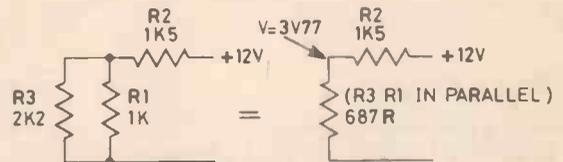

Fig. 3. How the circuit of Fig. 1 looks when the 10 V terminals are shorted.
2. Now imagine the 10 V terminals shorted, and the 12 V supply restored. The circuit now looks as in Fig. 3, with R1 and R3 in parallel. Combining 2k2 and 1k in